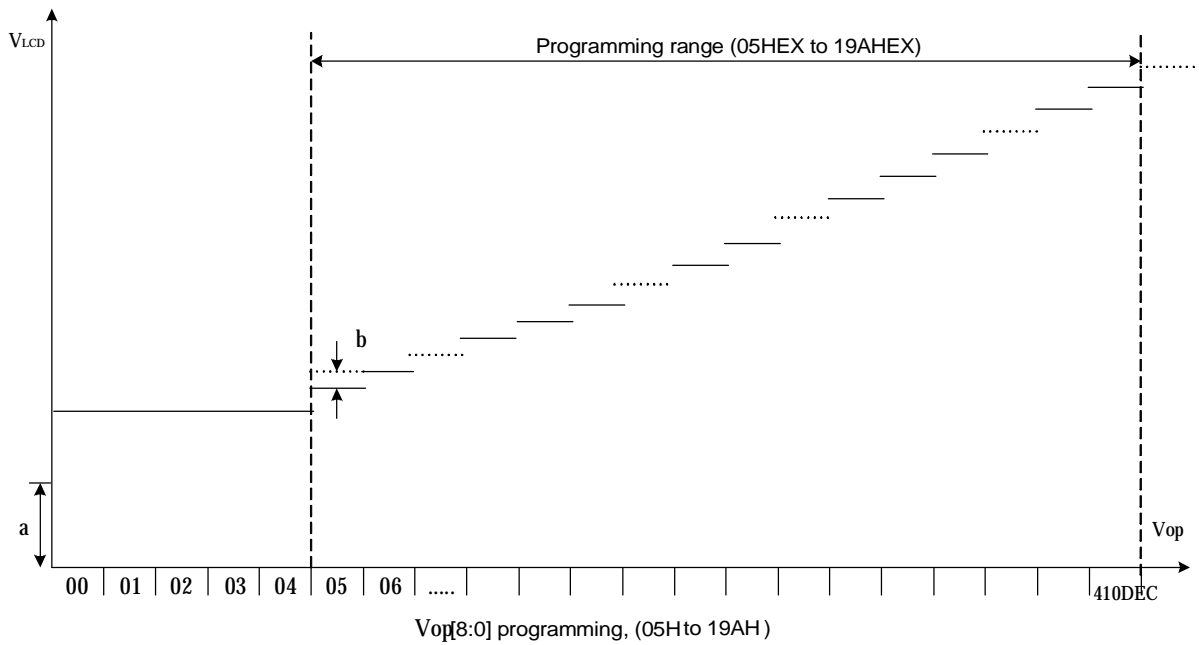

Fig. 7.10.2 VLCD programming range
The VOP[8:0] value must be in the V_{LCD} programming range as given in Fig.7.10.2. Evaluating equation (1), values outside the programming range indicated in Fig.7.10.2 may result. Calculated values below VOP[8:0]=4 will be mapped to VOP[8:0]=4, resulting Vop values higher than VOP[8:0]=410 will be mapped to VOP[8:0]=410.